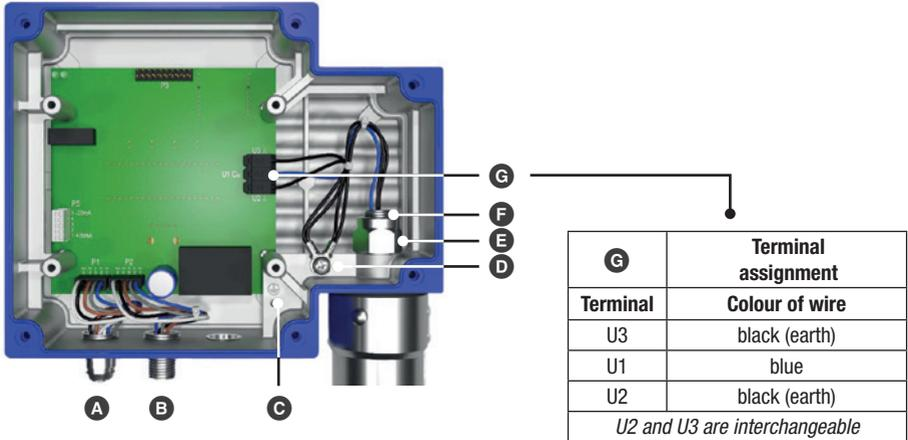

Fig. 9
10. Reconnect the electrode wiring to the PCB, see table in **Fig. 9**.
- ① Fig. 9, 10: Flange (PN 40, DN 50) EN 1092-1 (single electrode)